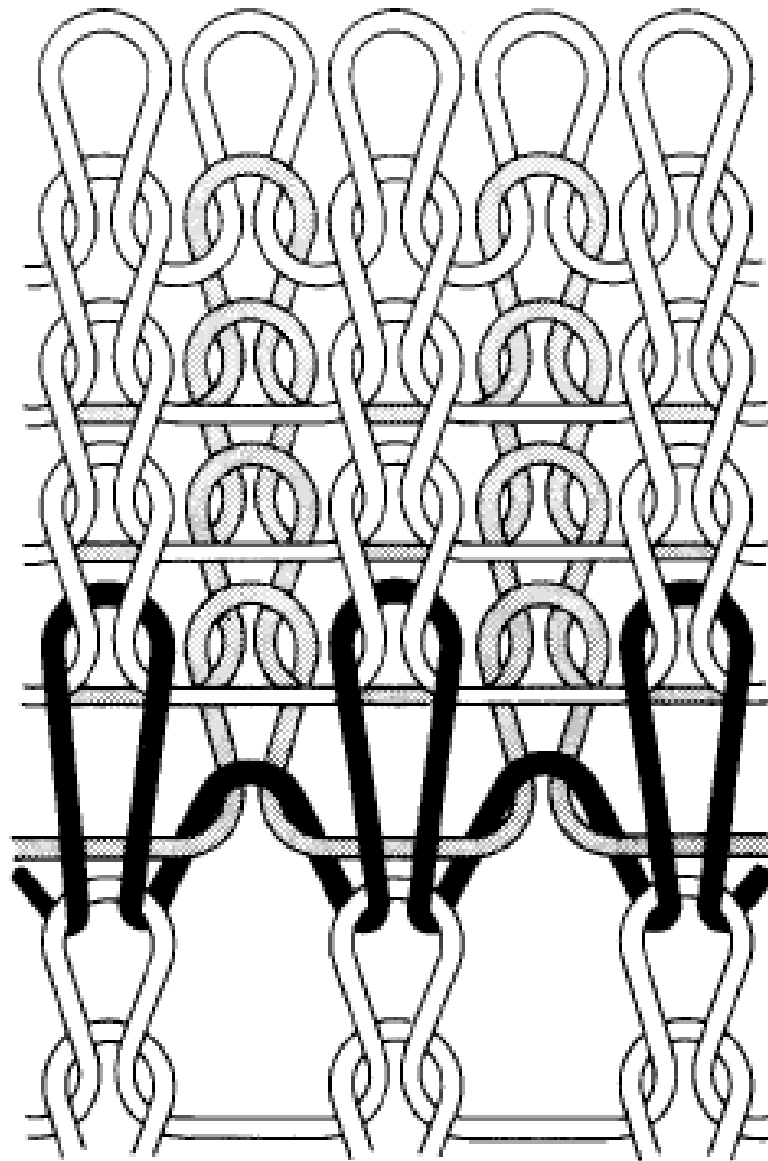

Fig. 16.4 Tubular welt.
- The *tubular welt* (Fig. 16.4) is the most popular welt because it is a balanced structure that is reversible, lies flat, can be extended to any depth and is elastic.